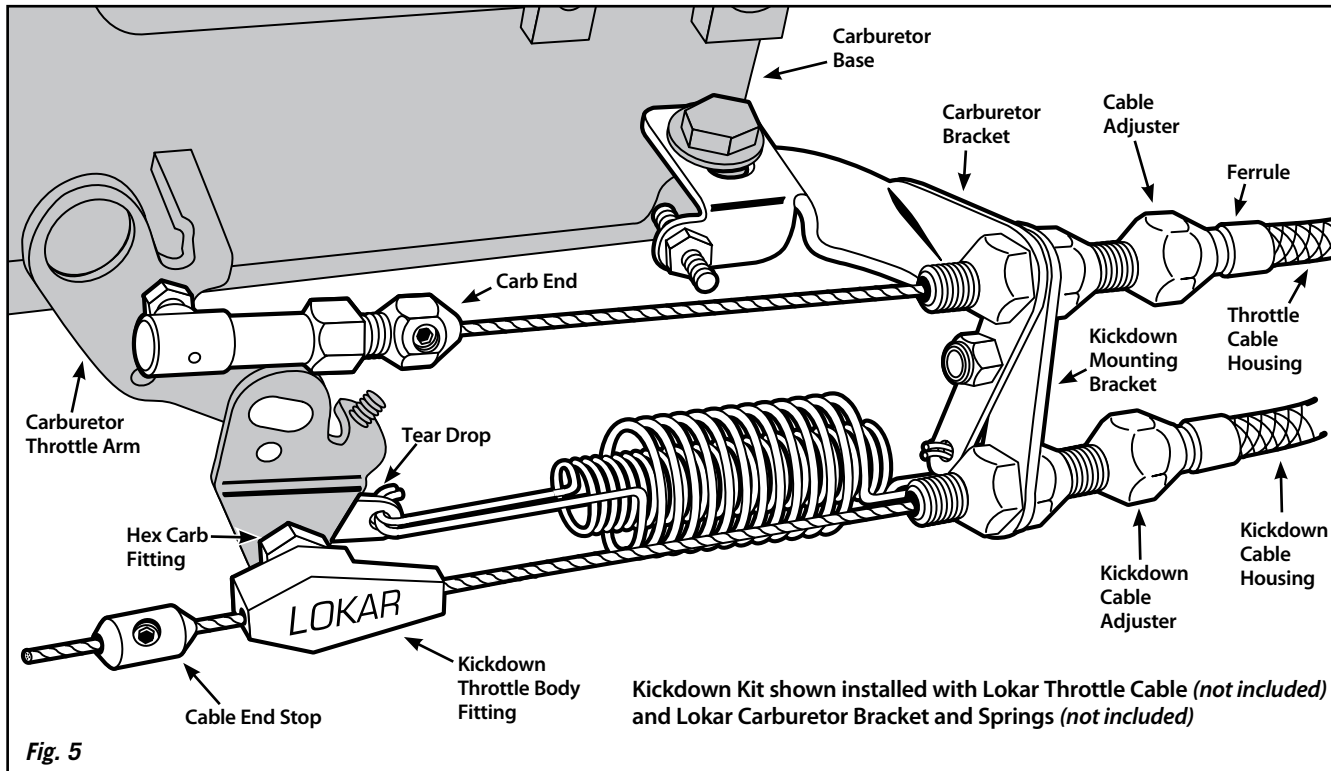

Fig. 5
Step 6: The tear drop (not included, part of the Throttle Cable Bracket & Spring Kit) will be attached to the carburetor throttle arm by the hex carb fitting. Separate the hex carb fitting from the kickdown throttle body fitting and the tear drop onto the carburetor throttle arm as shown in Fig. 5. Hook the return springs (not included, part of the Throttle Cable Bracket & Spring kit) to the tear drop. Tighten the hex carb fitting, and then back it off just enough so that the tear drop can swing freely.
Double check to be sure that all carburetor, throttle and kickdown linkage operates freely without binding and that the throttle returns to the closed position when the pedal is released, then test drive. Once the kickdown cable is correctly adjusted and operating properly you can cut off the excess inner wire, leaving about 1/2" extending beyond the cable end stop to allow for future adjustment if needed. Final installation should look like **Fig. 5** at the engine and **Fig. 7** at the transmission.